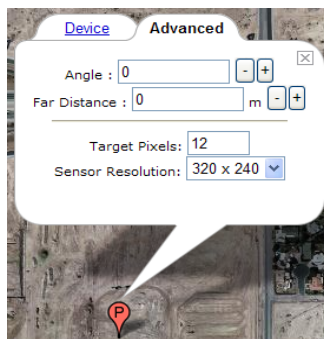

Figure 4: *SightSurvey Advanced orientation menu*
- To make fine adjustments to the SightSensor detection angle, distance, or size, click on the Advanced tab on the Device Menu as shown in Figure 4.
- To display a printable list of specifications for the current layout, click “Show Camera List” on the menu at the top of the SightSurvey screen. An example is shown in Figure 4.